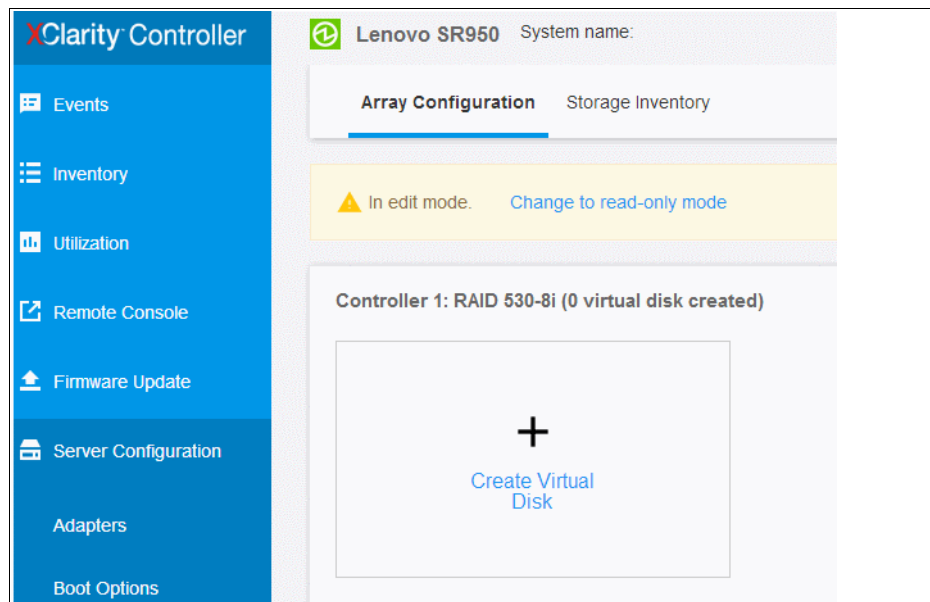

Figure 5-40 RAID Setup - enable edit mode
3. Click **Enable edit mode** to allow the XCC to create and/or manage arrays, as seen in Figure 5-40. The option to create an array is now visible.